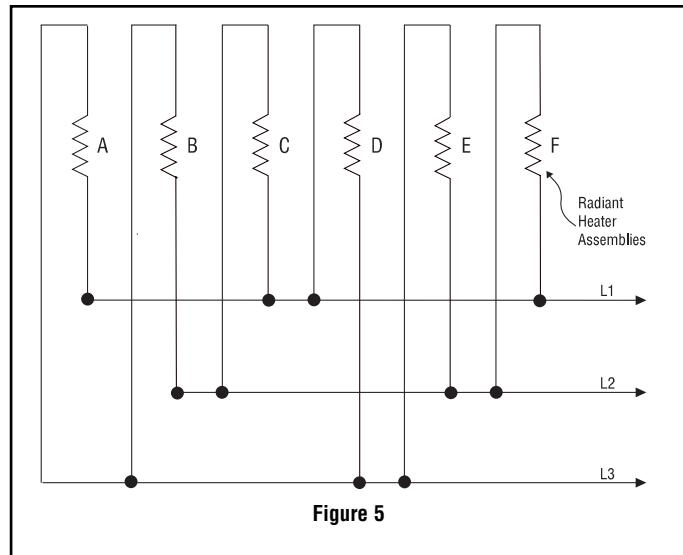

Figure 5
**11. Delta Connections** — When heaters occur in multiples of three, they may be connected to, and balanced across, three-phase lines. The most commonly used connection is the delta connection illustrated in Fig. 5. Three phase Delta connections to minimize inductive effect in conduits are made per this diagram. The rule: run all 3 three-phase conductors in the same conduit as far as possible. For single-phase, run only two conductors and follow the same rule.